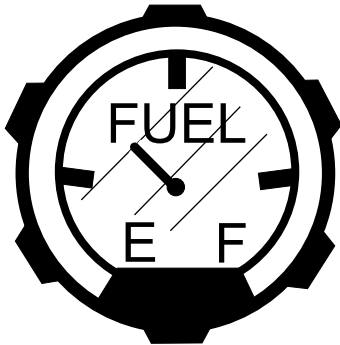

Figure 9. Fuel Gauge
1. Determine if the engine fuel is low (Figure 9).